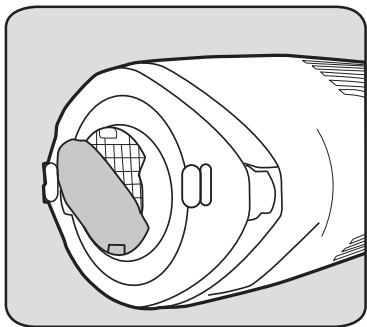

Fig. 18
4. Remove the small filter from the frame inside the main unit. (Fig. 18)